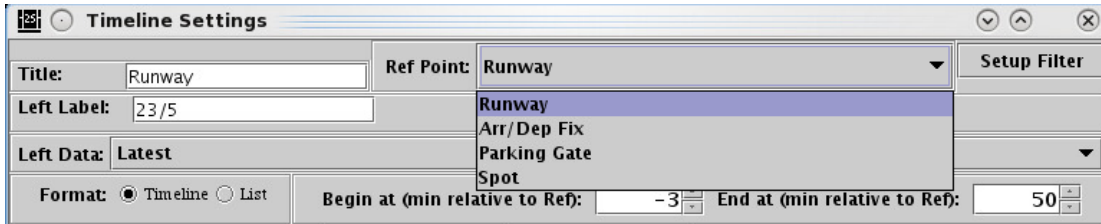

Figure 9. Timeline reference point.
**Step 1:** Click on the "Ref Point:" drop-down list arrow (Figure 9).